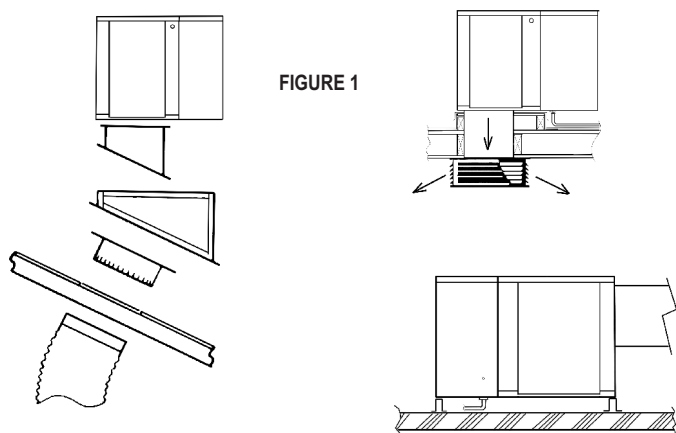
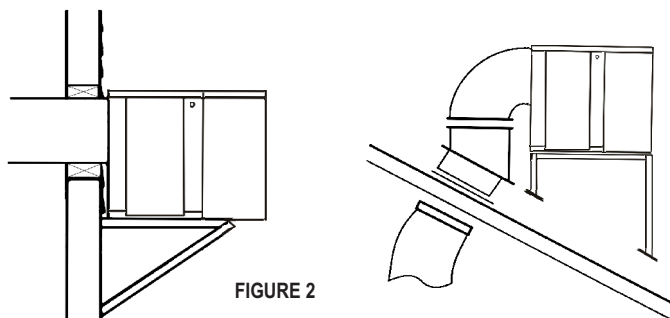

FIGURE 1
FIGURE 2
Your cooler may be a down (PD) or horizontal (PH) discharge model. Down discharge coolers are designed for installation on either flat or pitched roofs (see Fig. 1). Horizontal discharge coolers are designed for installation on the side of a building, ground level installation when mounted on a slab or, using a 90-degree transition duct, on a flat or pitched roof (see Fig. 2). Evaporative air-cooling systems (down or side discharge) can be connected to a duct distribution system with outlet registers for each area to be cooled.